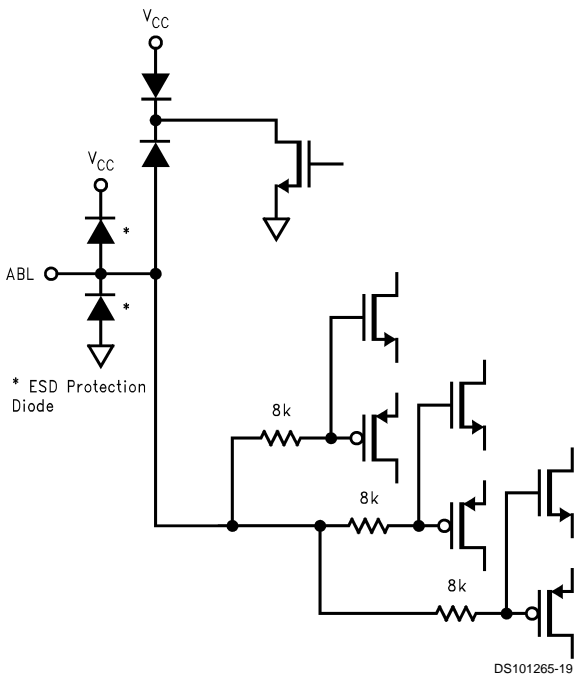

FIGURE 16. Pin 12 (ABL)
*Figure 29* shows the external schematic of pin 12, *Figure 16* shows the internal schematic.